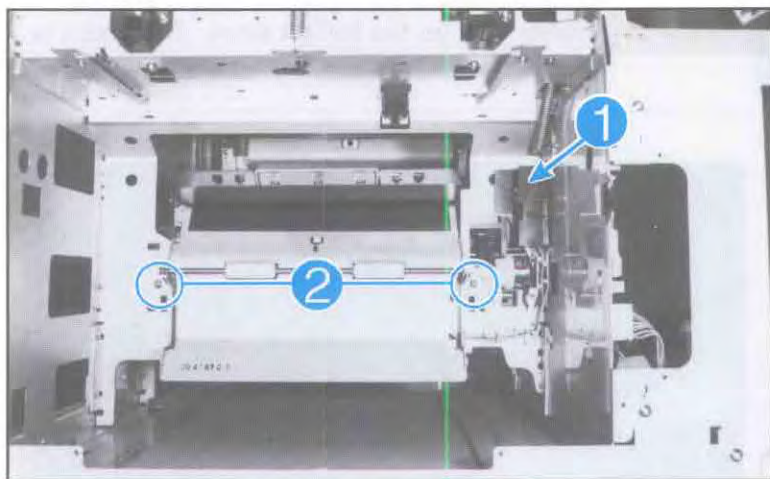

Figure 6-30. Paper Refeed Unit
5. Push in on the center snap of the black hood and pull to unplug the (1) Paper Refeed Unit connector (see Figure 6-30, callout 1).
6. Remove the (2) screws securing the Paper Refeed Unit and remove the unit (see Figure 6-30, callout 2).
10. The Paper Refeed Unit (see Figure 6-30).
13. The Paper Refeed Unit (see Figure 6-30).